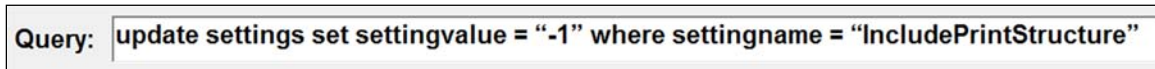

Figure 24: Enter the following command in the “Query” text box: `update settings set settingvalue = “-1” where settingname = “IncludePrintStructure”`
29. Enter the following command in the “Query” text box located at the bottom of the screen (Figure 24). Letters are not case sensitive. The value shown below is a -1 (negative one).